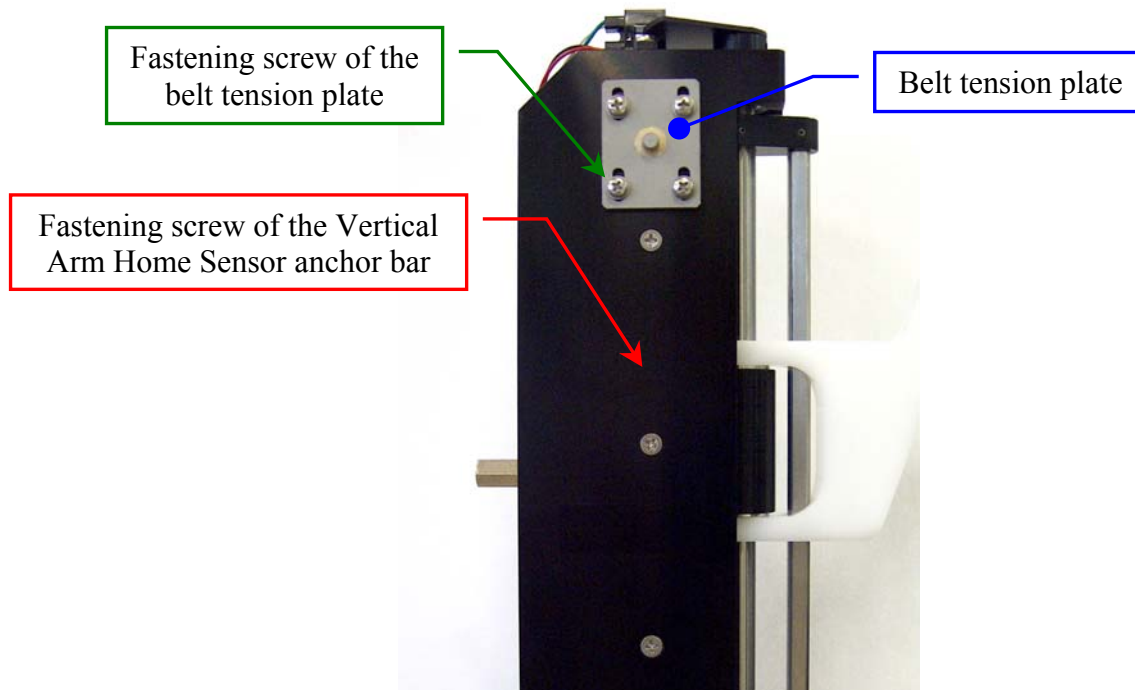

Fig. 28 – Fastening screw of the Vertical Arm Home Sensor anchor bar
3. Loosen the four fastening screws of the belt tension plate that permit to adjust the belt tension for the vertical Sampling Probe movement (Fig. 28).
4. Unscrew the four fastening screws (Fig. 28) of the Vertical Arm Home Sensor anchor bar (Fig. 5) and remove it to the Sampling Arm.